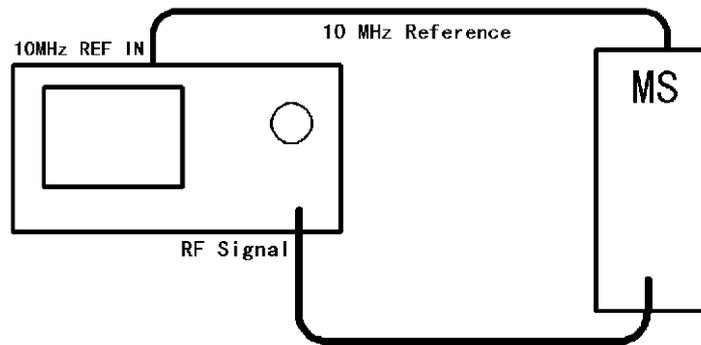

Figure 2-7 Connection for the PDC Measurement
1. Connect the instrument to the mobile station equipment as shown in Figure 2-7.